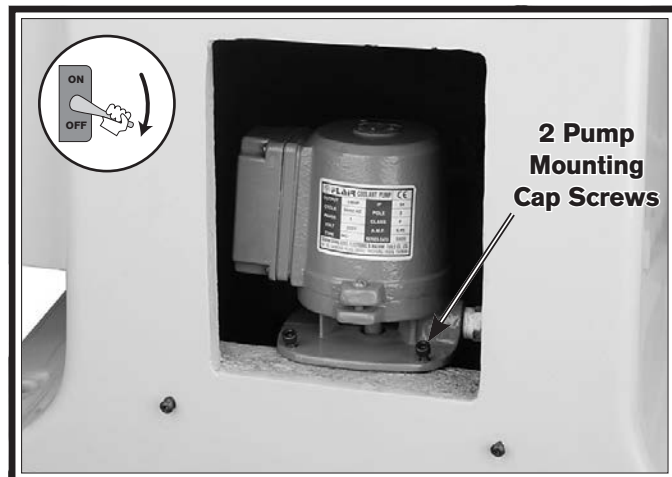

Figure 43. Rear access of coolant pump.
7. Remove pump mounting screws and move pump out of way (see **Figure 43**).